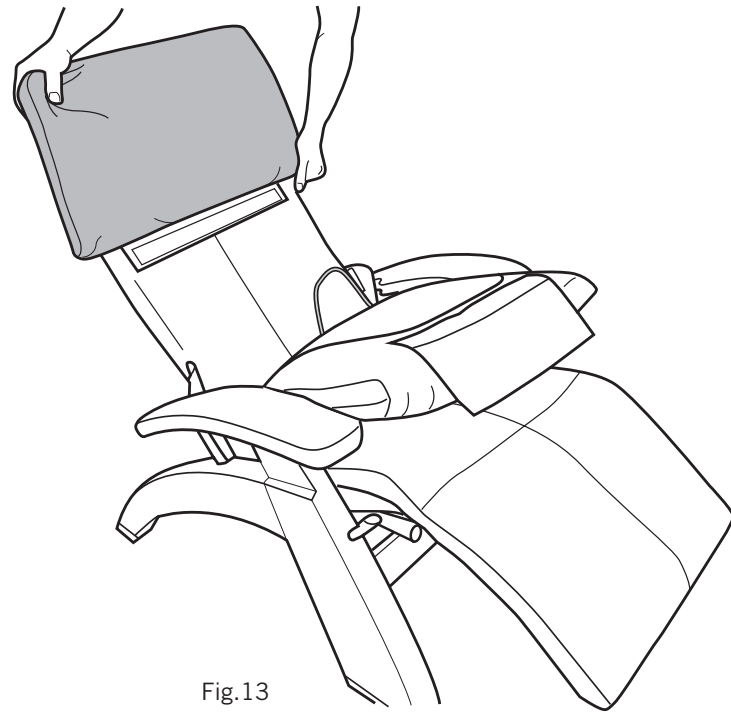

Fig.13
1. Slide the headrest pad over the head rest frame (Fig.13).